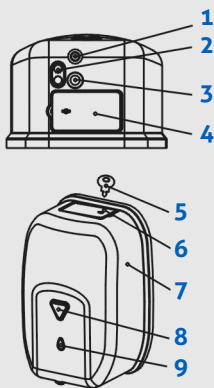

Figure 1
1. Unlock and open the upper cover (6) by the key (5) attached as shown in (Figure 1).